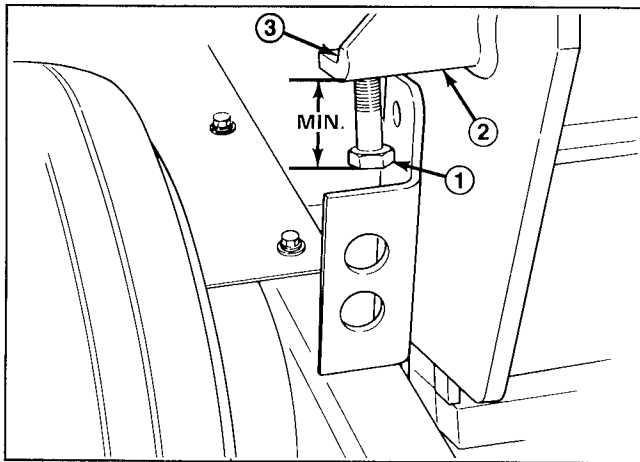

Figure 19
2. Loosen jam nut on top of adjusting bracket (Fig. 19).
3. Thread adjusting screw into bracket to increase coring depth and out to decrease depth (Fig. 19).
4. Maximum recommended coring depth is achieved when distance from end of screw head to bracket is $11/16$ " (Fig. 19).